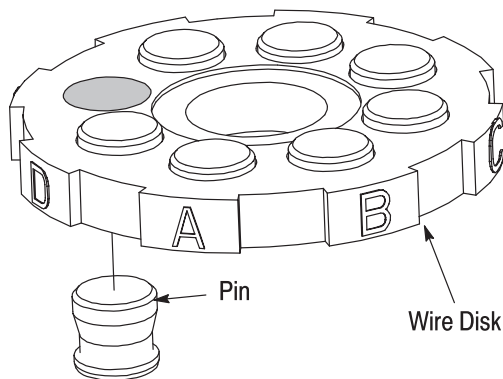

Figure 7
7. Remove the “snap-fitted” pins from the wire disk by pushing them from the top. See Figure 7. The chamfers on the pins and in the holes of the plastic carrier insure that they can move in only one direction. Remove pins that you need to replace, being careful to note the position of the A, B, C, or D legend molded into the plastic outer edge.